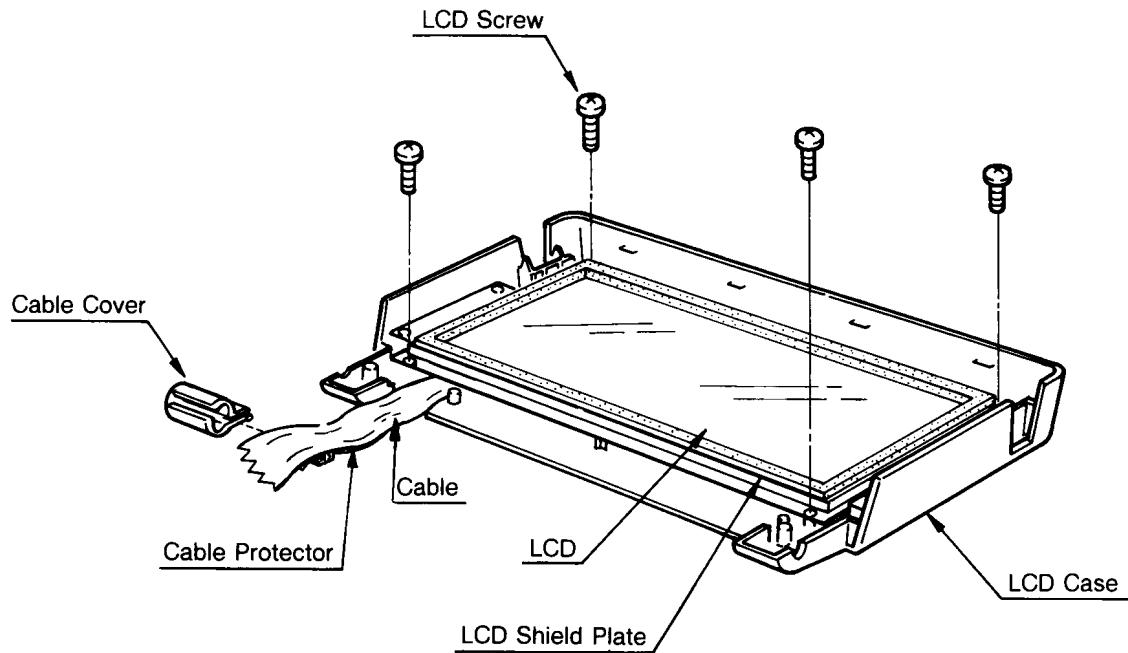

Figure 2-9. Cable Cover and LCD Removal
(6) Remove the Cable Cover from the Cable. (Figure 2-9)
(7) Remove four LCD screws and remove the LCD unit and the cushion below.